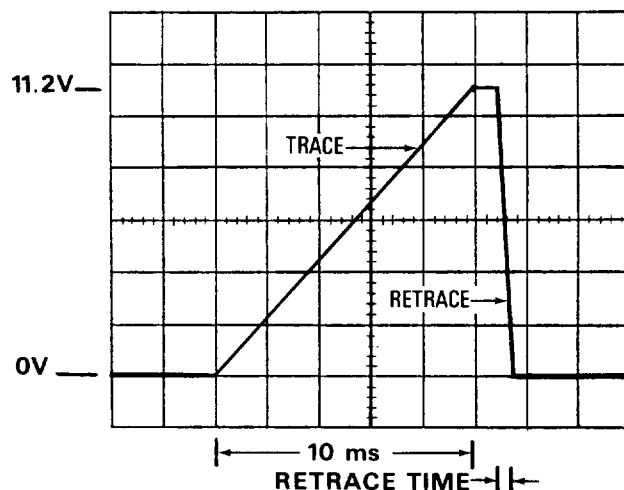

Figure 5-2. Mainframe HORIZ OUT Waveform
2. Check that ramp amplitude is about +11.2V (Figure 5-2).
3. Check that trace duration is 10ms $\pm 20\%$ and that retrace time is about 2ms (Figure 5-2).